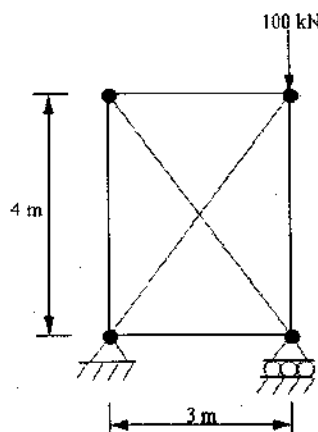

Figure 3
- Q. 2. Analyse the structure as shown in figure 3 using **Direct Flexibility method** and find the member forces in all members. AE is same in all the members.